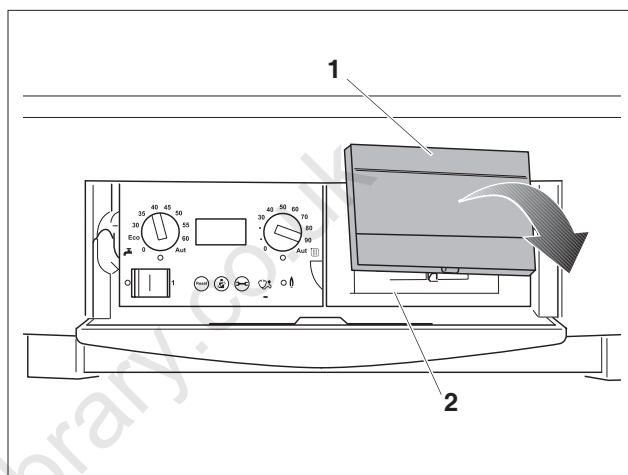

fig. 44 Remove the cover and install the room controller in the boiler (only for outdoor temperature-dependant operation).
- Remove the cover (fig. 44, item 1).
- Install the RC30 in the slot (fig. 44, item 2).